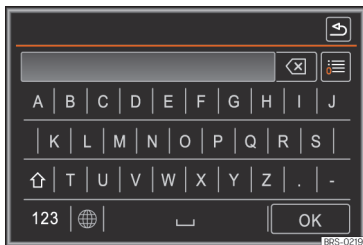

Fig. 223 Search window.
- Enter the name of the contact you are looking for in the window »» Fig. 223. While the characters are being entered, a contact is displayed in the input field.